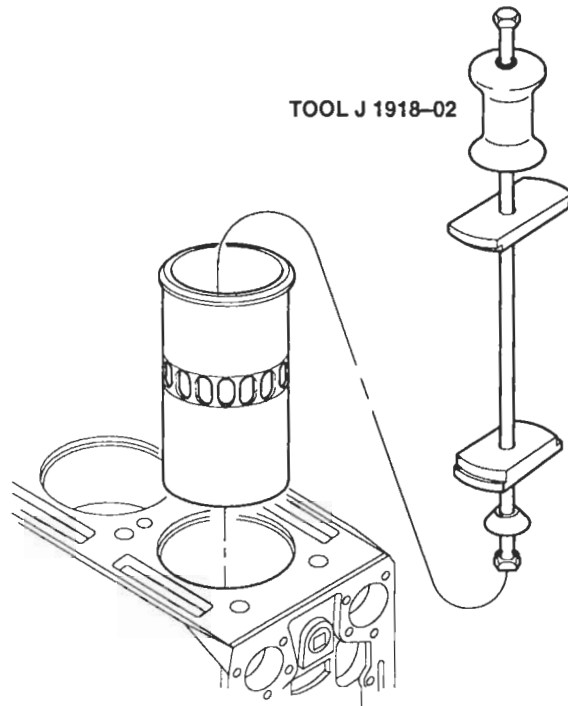

Figure 2. Cylinder Liner Removal
- b. With the tool in place, strike the upset head on the upper end of the puller rod a sharp blow with the puller weight, thus releasing the liner (Figure 2.)